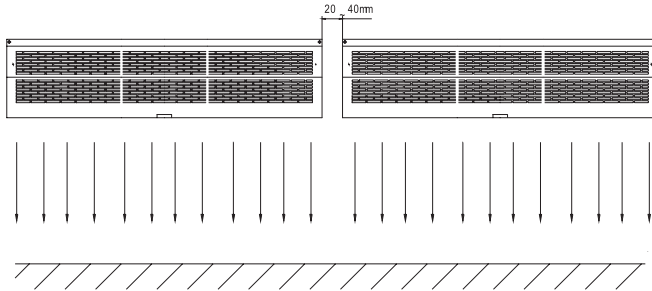

Figure 5 Abreast installation of Several Air Curtains.
7.1.5 When the entrance is wider than the unit, it is recommended to install two or more units in parallel. In this case, provide 20-40 mm intervals between the units (Figure 5).